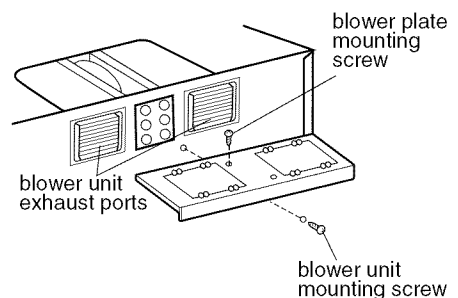

Figure 17
7. Reattach the blower plate to the top of the cabinet as it was originally assembled. Attach with one blower unit mounting screw and then one blower plate mounting screw. See **Figure 17**.